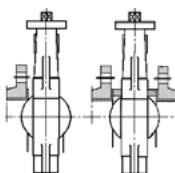

FIG 3
- Butterflyventilen kan ikke monteres i et rør, hvis indre diameter er mindre end den nominelle diameter af ventilen. I så fald skal du bruge afstandsstykke for at forhindre skader på klappen (se fig 3).
- The butterfly valves may not be fitted into a pipe whose inner diameter is smaller than the nominal diameter of the valve. In such case you should use spacers to prevent damage to the disc (see fig 3).